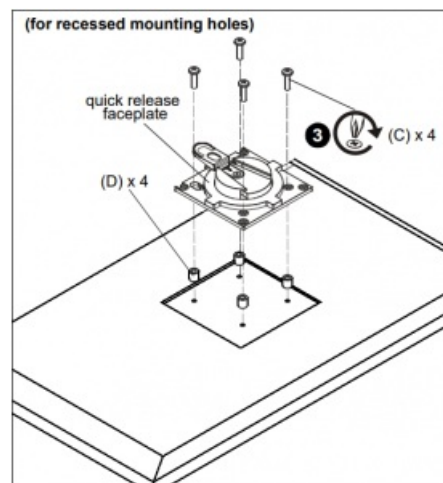

Figure 10
- Place four spacers (D) on top of mounting holes on back of display. (See Figure 10)
- Using Phillips screwdriver, carefully install four M4x20mm screws (C) through corresponding holes on faceplate, spacers (D) and into the mounting holes on the display. (See Figure 10)